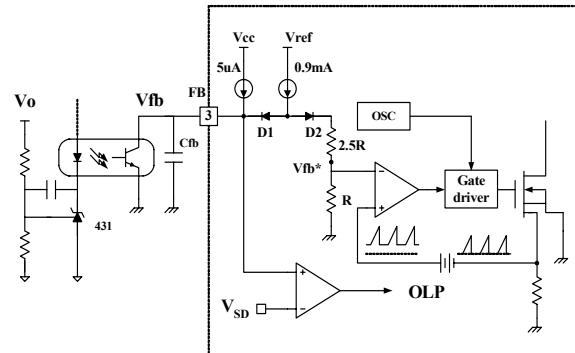

Figure 5. Pulse width modulation (PWM) circuit
**2. Feedback Control :** The FSDx321 employs current mode control, shown in figure 5. An opto-coupler (such as the H11A817A) and shunt regulator (such as the KA431) are typically used to implement the feedback network. Comparing the feedback voltage with the voltage across the Rsense resistor plus an offset voltage makes it possible to control the switching duty cycle. When the reference pin voltage of the KA431 exceeds the internal reference voltage of 2.5V, the H11A817A LED current increases, thus pulling down the feedback voltage and reducing the duty cycle. This event typically happens when the input voltage is increased or the output load is decreased.